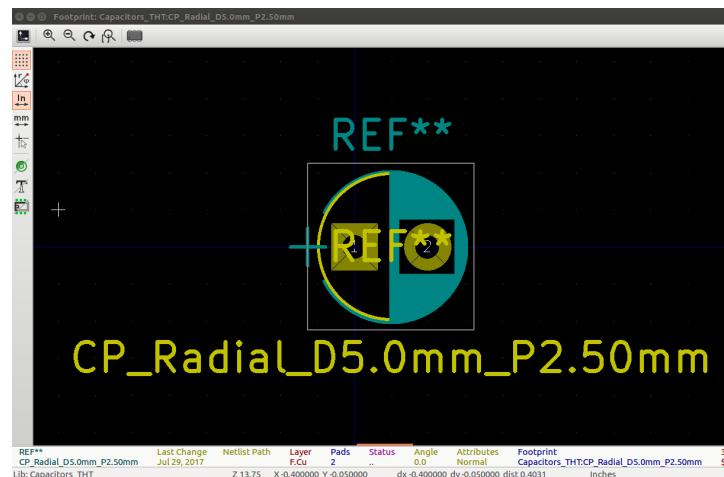
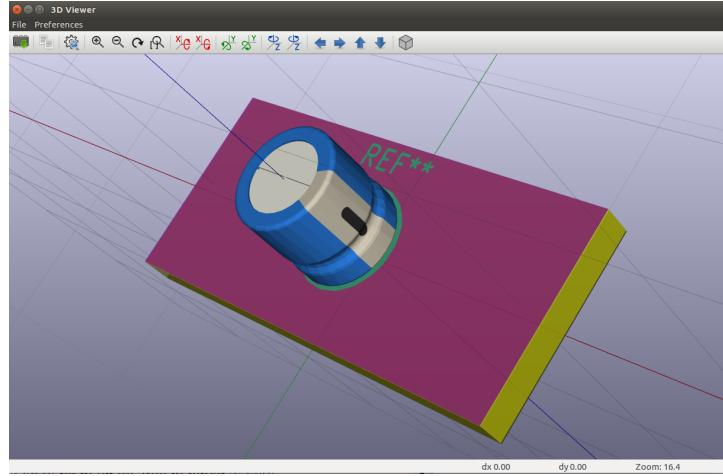

Figure 16.6: Footprint CP_Radial_D5.0mm_P2.50mm's view in 2D.
Figure 16.7: 3D view of the footprint
- To view a footprint in 2D, select the component for which you wish to view the available footprints, then select the library from left-most pane and now from the right pane and click on the desired footprint and click on **View selected footprint** from the menu bar. Let us view a footprint for C1 from the **Capacitors_THT** footprint library. Choose C1 from the middle pane as shown, click on **Capacitors_THT** in the left-most pane and select the *View selected footprint* tool. On clicking the **View selected footprint** tool, the **Footprint** window with the view in 2D will be displayed. 2D view of the footprint **CP_Radial_D5.0mm_P2.50mm** is shown in Fig. 16.6.
- Click on the **3D Display** icon in the **Footprint** window, as shown in Fig. 16.6. A top view of the selected footprint in 3D is obtained. Click on the footprint and rotate it using the computer mouse to get 3D views from various angles. One such view of the footprint in 3D is shown in Fig. 16.7.